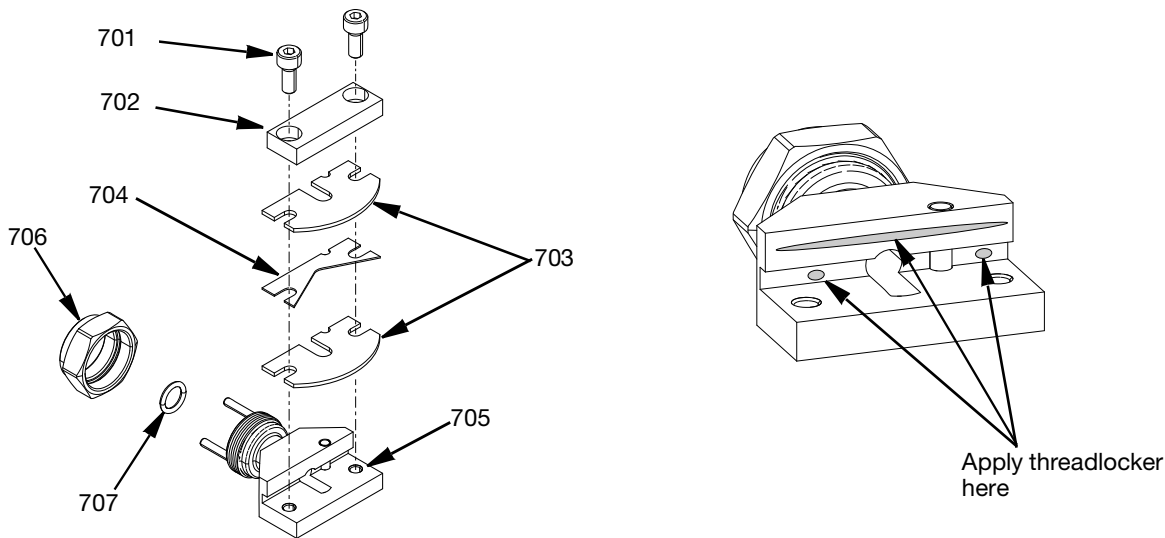

FIG. 41
1. Apply Blue, Medium strength thread locker used for this assembly is Loctite® 242 or equivalent to the surface shown in FIG. 41.
2. Place sandwiched pieces against the step of the housing nozzle (705) lining up the notches with the locating pin in the housing nozzle.
3. Place the clamp (702) with the fluid passage notch facing the fluid passageway and tighten down with two M4 SHC screws(701). Torque to 29.2 in-lb (3.3 N•m). See FIG. 41.